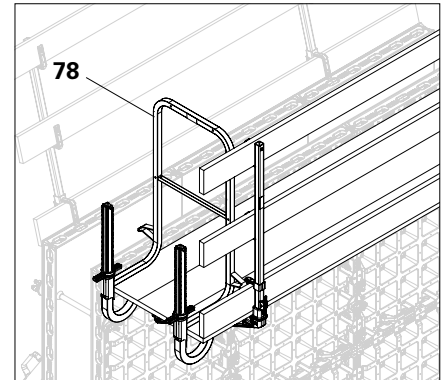

Fig. B4.03
7. Attach side protection, e.g. end guardrail frame 55 (78). (Fig. B4.03)